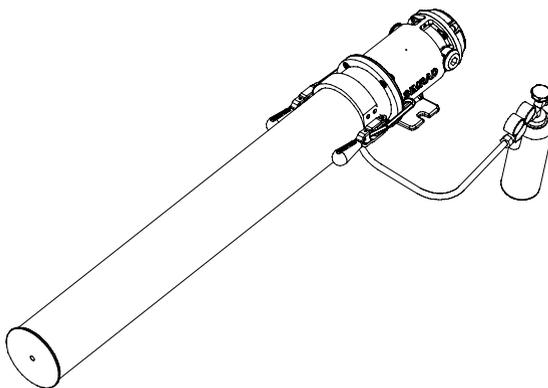

Figure 4-2 Set-up of calibration test
- Apply a certified test gas to the gas test nozzle, preferably 10 % lcl Methane, as shown in Fig 4.2.